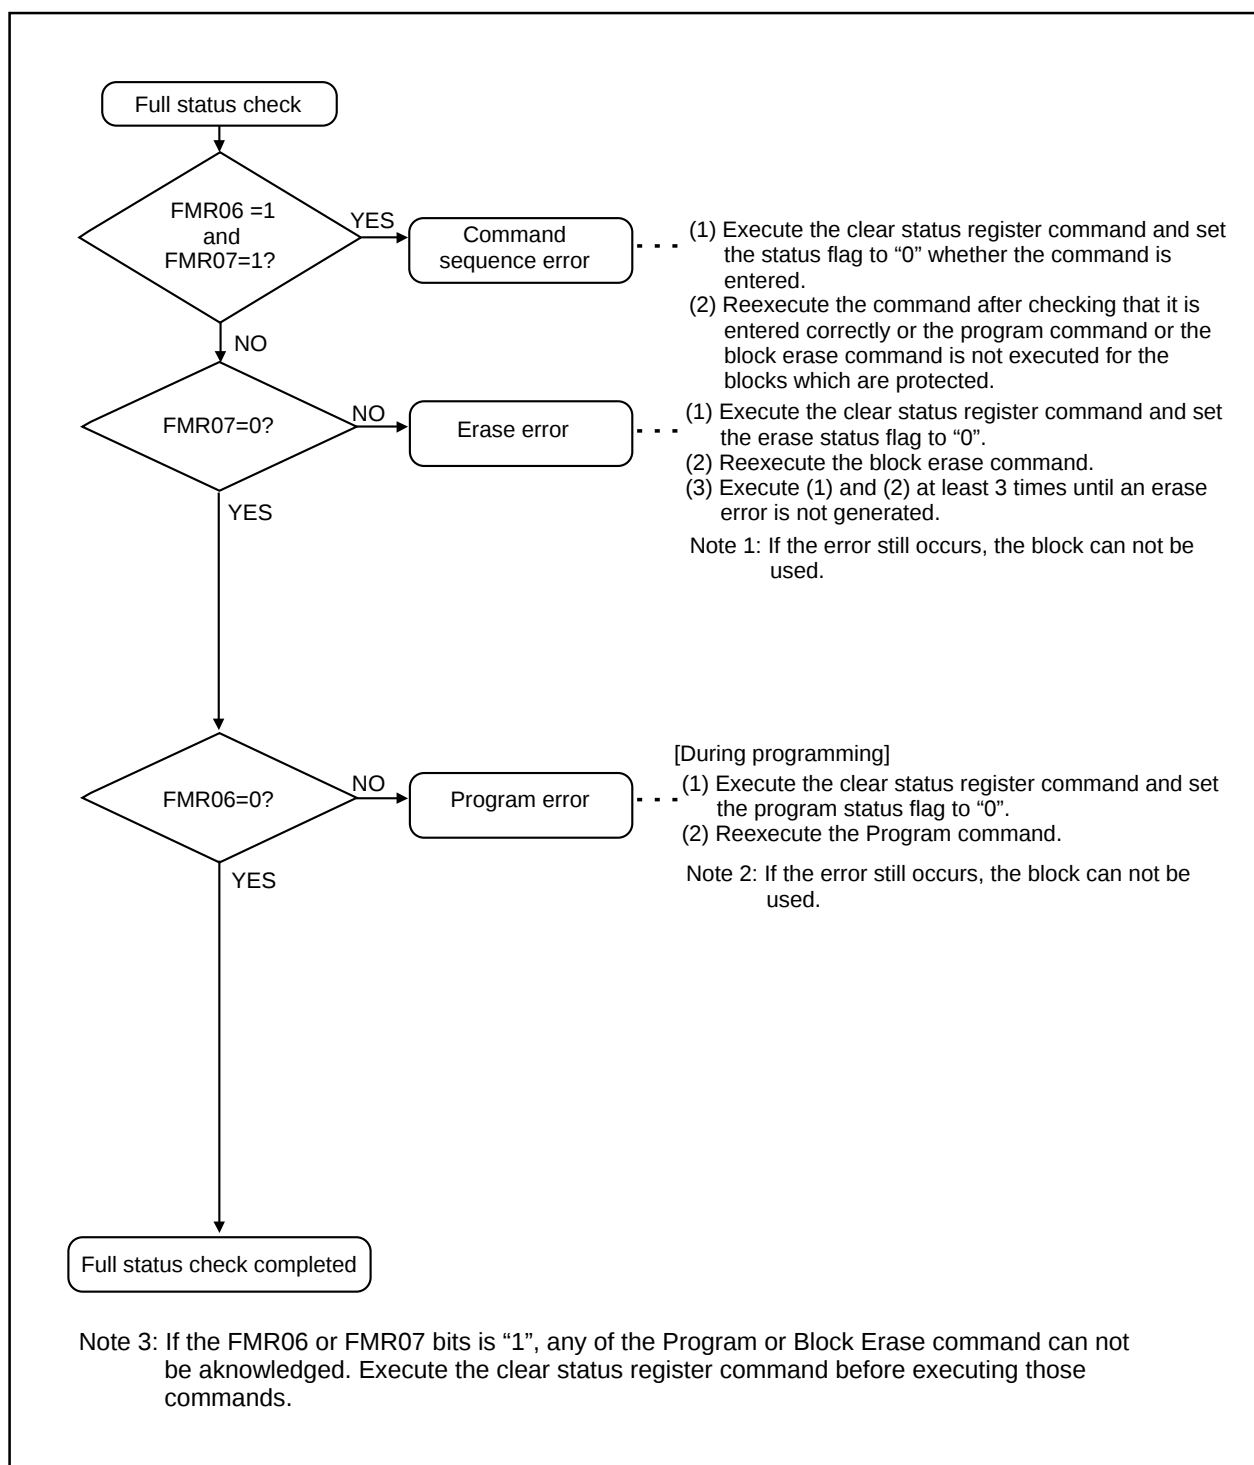

Figure 17.8.4.1. Full Status Check and Handling Procedure for Each Error
4. Refer to "Figure 17.8.4.1 Full Status Check and Handling Procedure for Each Error."
When an error occurs, the FMR06 to FMR07 bits in the FMR0 register are set to “1”, indicating occurrence of each specific error. Therefore, execution results can be verified by checking these status bits (full status check). Table 17.8.4.1 shows errors and the status of FMR0 register. Figure 17.8.4.1 shows a flow chart of the full status check and handling procedure for each error.